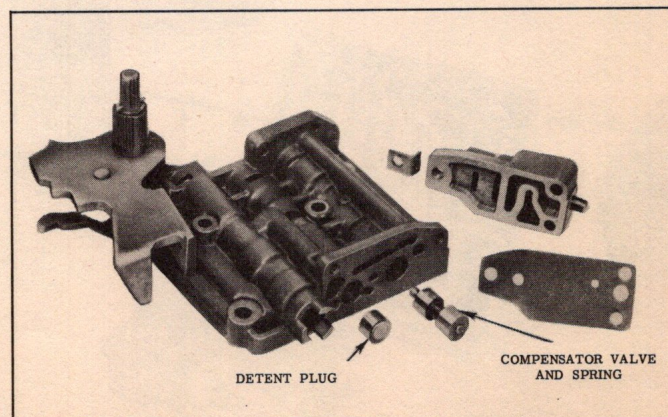

Fig. 183—Compensator Valve, Spring and Detent Plug
15. Remove compensator valve, spring and detent plug from outer valve body (Fig. 183).